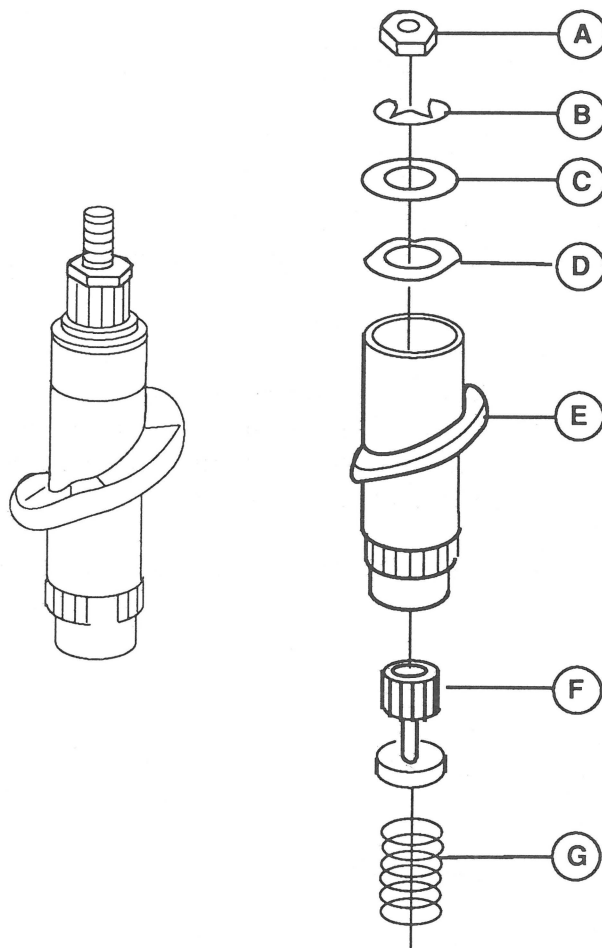

Figure 12
□ COLOR RIBBON ASSEMBLY (Figure 12)